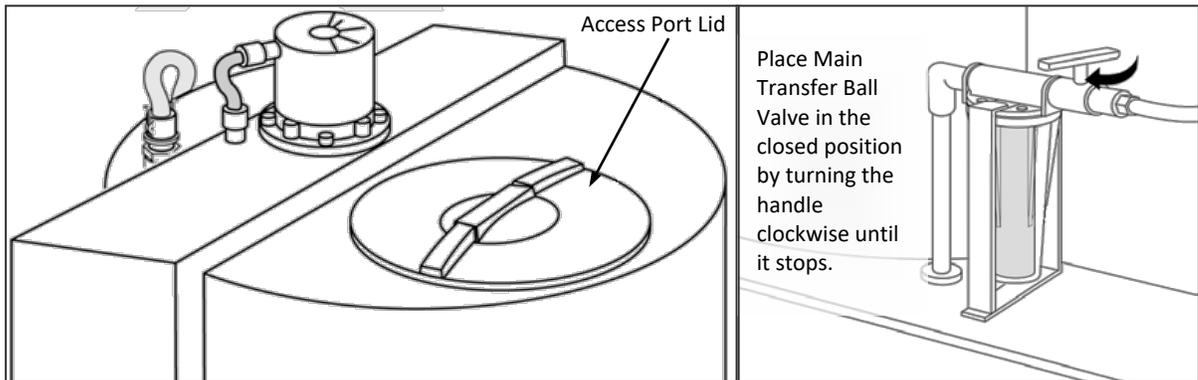

Figure 1
1. Before initiating the *RINSE CYCLE*, the Operator must ensure that the GranuFlo I Dissolution Unit Access Port Lid is in place (do not fully secure), and the Main Transfer Ball Valve is in the CLOSED position. Make sure the input water source is in the ON position (Figure 1).